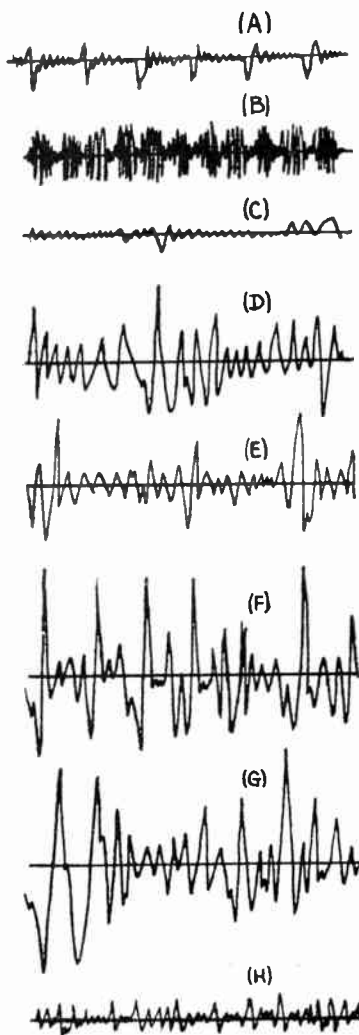

FIG. 7
The reason why most disturbing electrical devices can be recognized by the sounds they cause in the radio receiver output is that almost every one of these electrical devices produces in its supply line, disturbances having a particular wave-form. When these are received by the receiver, and are amplified and detected, they produce particular sounds. In order to make this clear, a number of oscillograms of the characteristic disturbances produced by several common electrical devices were taken. They are reproduced in Fig. 7 and labeled. An oscillograph was connected to the output circuit of a receiver whose antenna circuit was subjected to the interference in each case. These oscillograms show some very interesting things about such interference. Note the general similarity of interference produced by sparking devices (A), (D), (E), (F), (G). Also notice the great reduction brought about in the interference (G) which was produced by a badly sparking universal motor when the brushes were fitted properly and the commutator was cleaned (H). The use of cathode-ray oscilloscopes in noise-reduction work by service men in order to reveal the character of the interference, is very helpful.